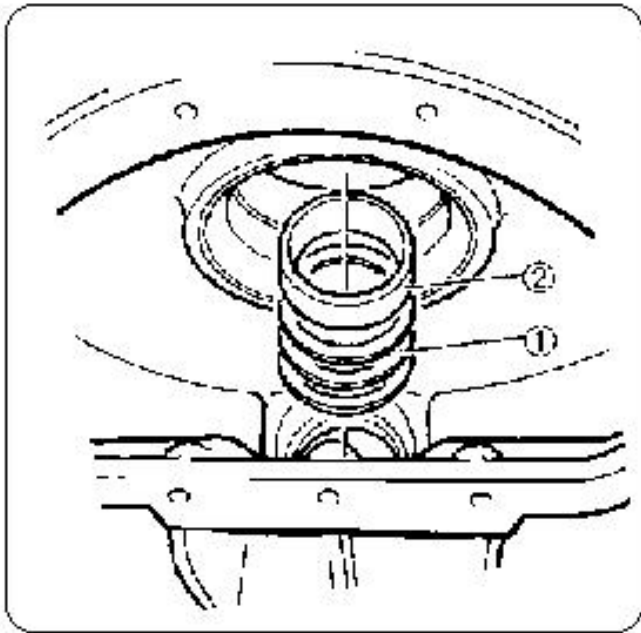

Figure 17
Assemble a shim pack of the required thickness (see section 2). Insert the shims (pos. 1) into the bearing seat. Fit the outer race of the bearing (pos. 2) in the bearing seat (Figure 17).